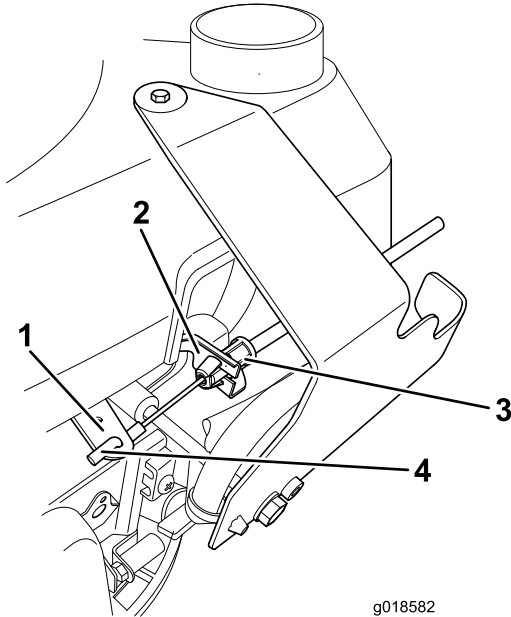

Figure 2
6. Hook the dogend into the lever, then pull the brake control cable taut and slide it into the bracket (Figure 2).
10. Pass the engine break cable (Figure 2) through the throttle control unit and up into the bail arm.